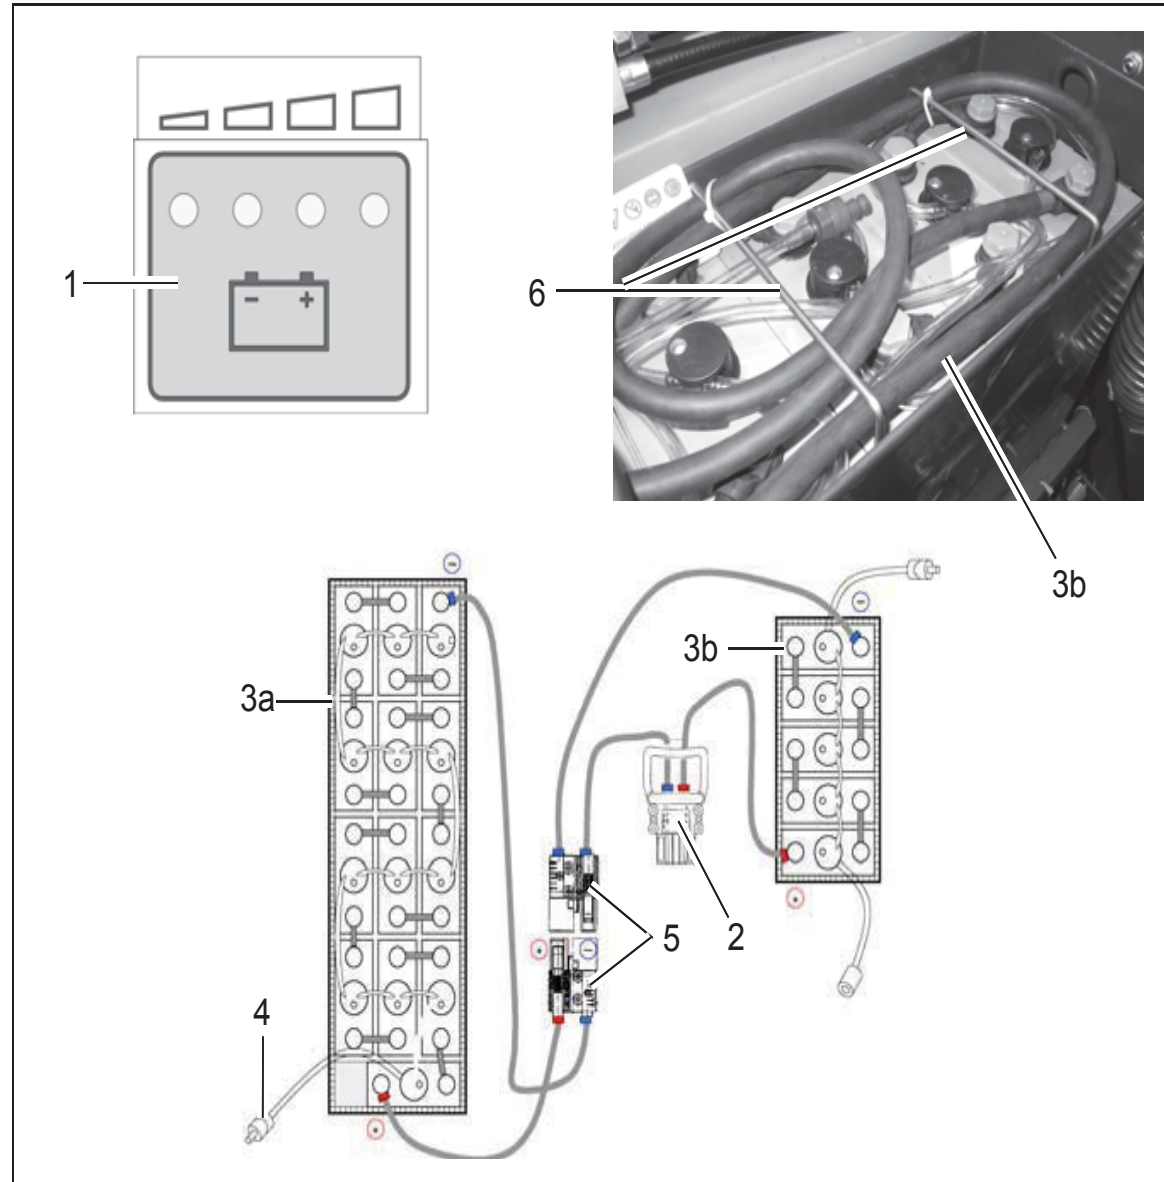

Fig.24
The illustration depicts the PzS trough battery set 36V/450 Ah (option). In order to fix the battery cable, there are two brackets and cable ties enclosed with the battery set. Insert the brackets (Fig. 24/6) in the small battery trough (Fig. 24/3b), refer to photo.
During operation, the charge control indicator (Fig. 24/1) indicates the charge status of the batteries (Fig. 24/3). When the red LED lights up, the batteries must be charged immediately.
4. Disconnect the battery plug (Fig. 24/2) from the device connector and connect it to the connector on the charger.
4. Disconnect the battery plug (Fig. 24/2) from the device connector. If necessary, disconnect the water refilling system (Fig. 24/4).
6. Connect the battery plug (Fig. 24/2) to the device connector. If necessary, connect the water refilling system (Fig. 24/4).